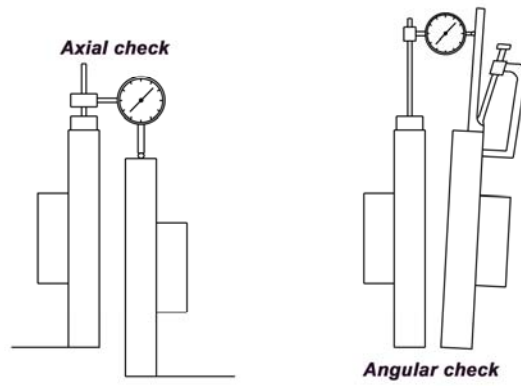

Fig 2-6
2.9 For coupling with narrow flanges, use a dial indicator gauge as shown in fig 2-6. The alignment values are maximums for continuous service.